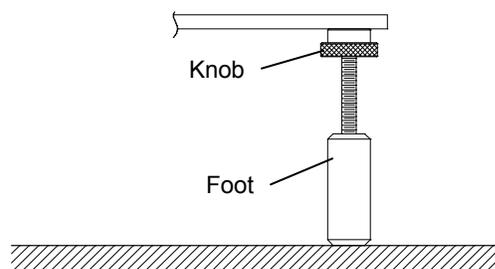

Figure 29 • Adjusting the Foot
- If temperature control is desired, connect the thermocouple and the heater (Figure 29) to a suitable temperature controller.